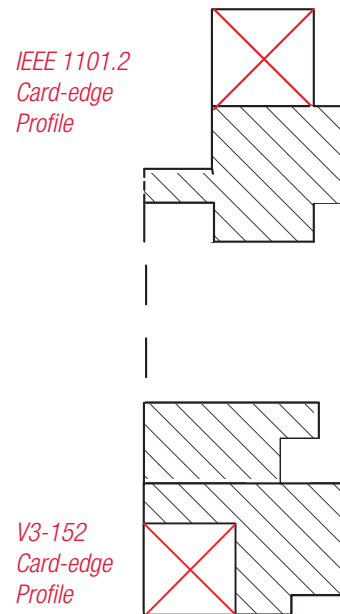

Figure 3: Card-edge profile deviates from IEEE 1101.2
To minimize the temperature rise from the mating slot wall of conduction-cooled enclosures to the back-side thermal interface region of the V3-152, the thermal frame maximizes the thermal interface area by extending the frame to the full width of the card, as illustrated in Figure 3. This deviation from the IEEE 1101.2 standard, which calls for the thermal frame to be notched for compatibility with card guides in standard air-cooled chassis, has the benefit of lower card operating temperatures and increased long term reliability. During test and integration activities where it may be desirable to install a conduction-cooled V3-152 into an air-cooled card-cage, this can normally be accomplished simply by removing the card guides.
1. Refer to the deviation from IEEE 1101.2 in Figure 3.